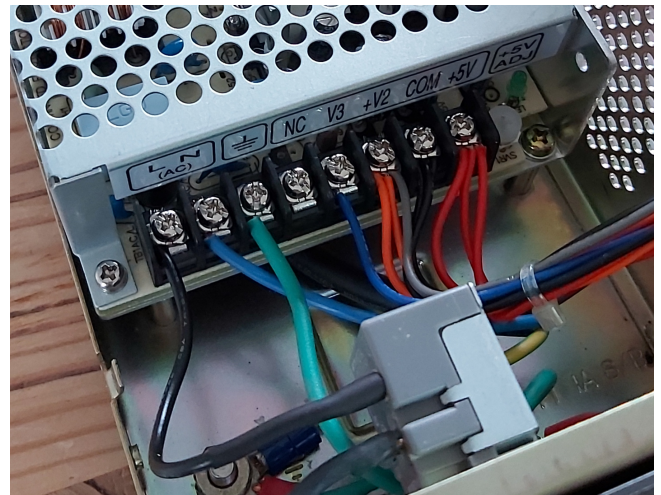

Figure 1.4: Connect all wires to the relevant PSU terminals.
4. Connect the wires leading from the NABU motherboard, as shown in Table 2 (above) and Figure 1.4.